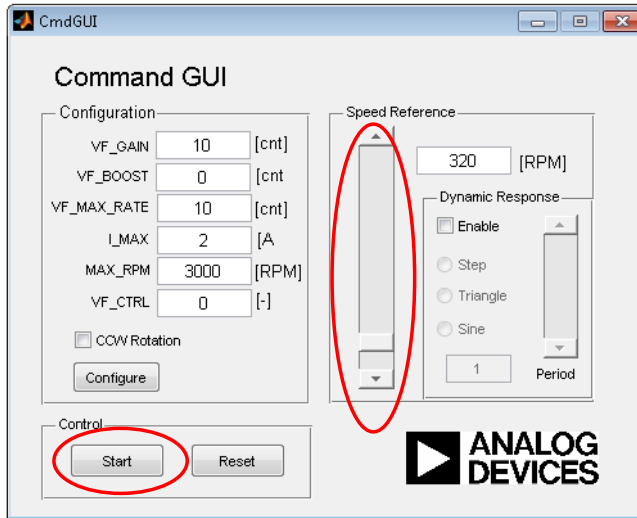

Figure 15 ADIMonitor, start and speed reference.
7. To start the motor press Start. Note that if using the high voltage board, an audible click should be heard on pressing Start (due to the inrush relay being turned on). Set the speed reference by sliding the bar or enter a numeric number. See Figure 15